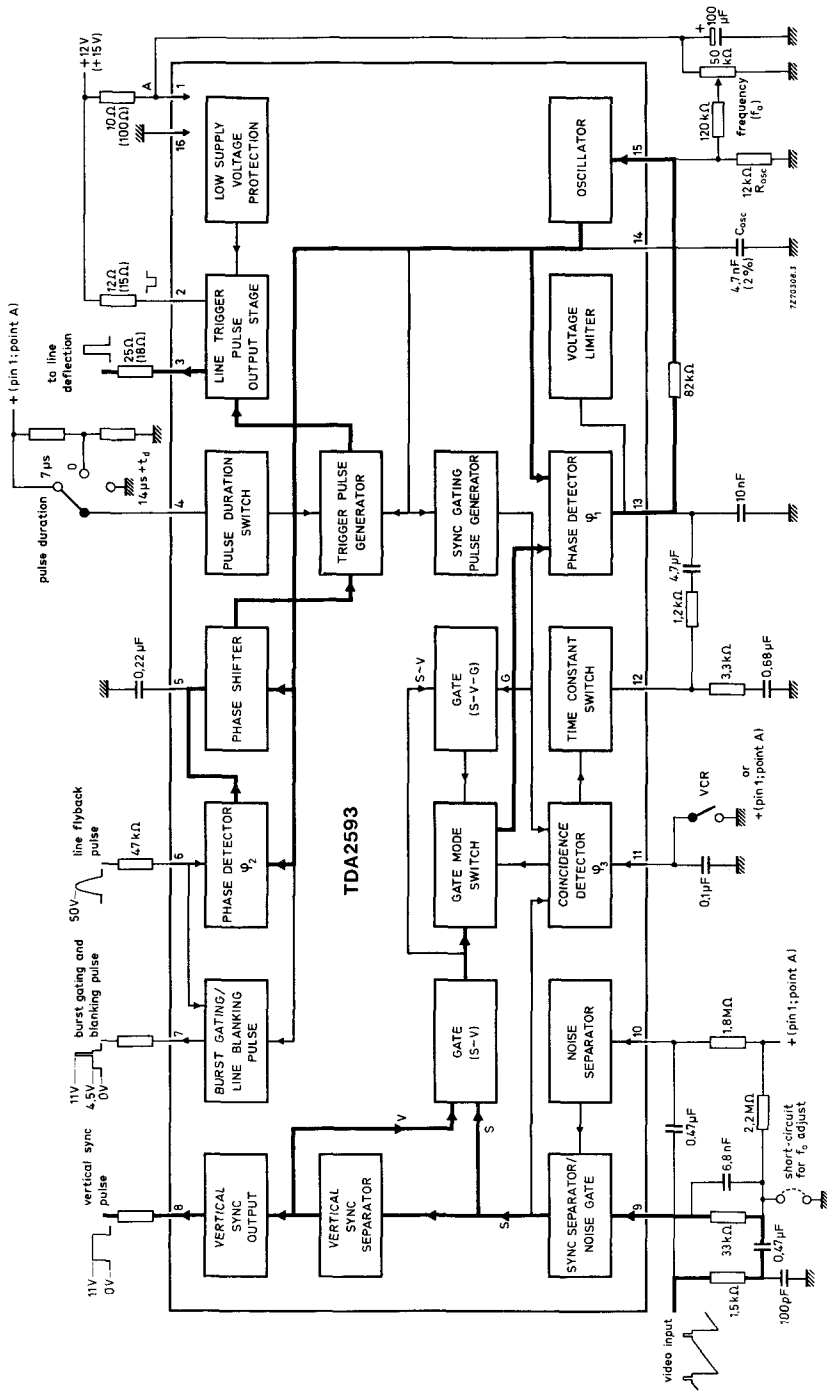

Fig. 1 Block diagram.
**CHARACTERISTICS** at  $V_{1-16} = 12$  V;  $T_{amb} = 25$  °C; measured in Fig. 1**Sync separator**